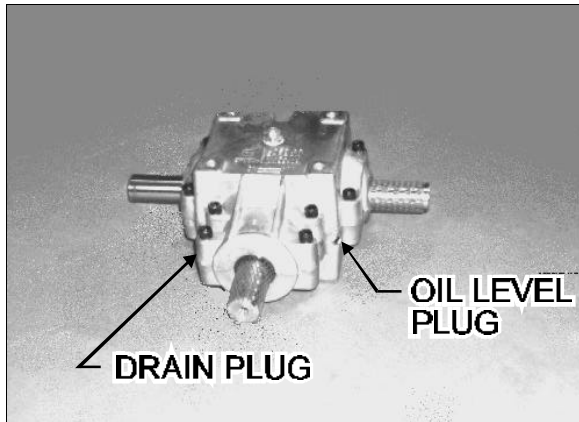

FIGURE 15: FAN GEARBOX
2. Unscrew the air vent tube to permit the air to enter (Fig. 15).